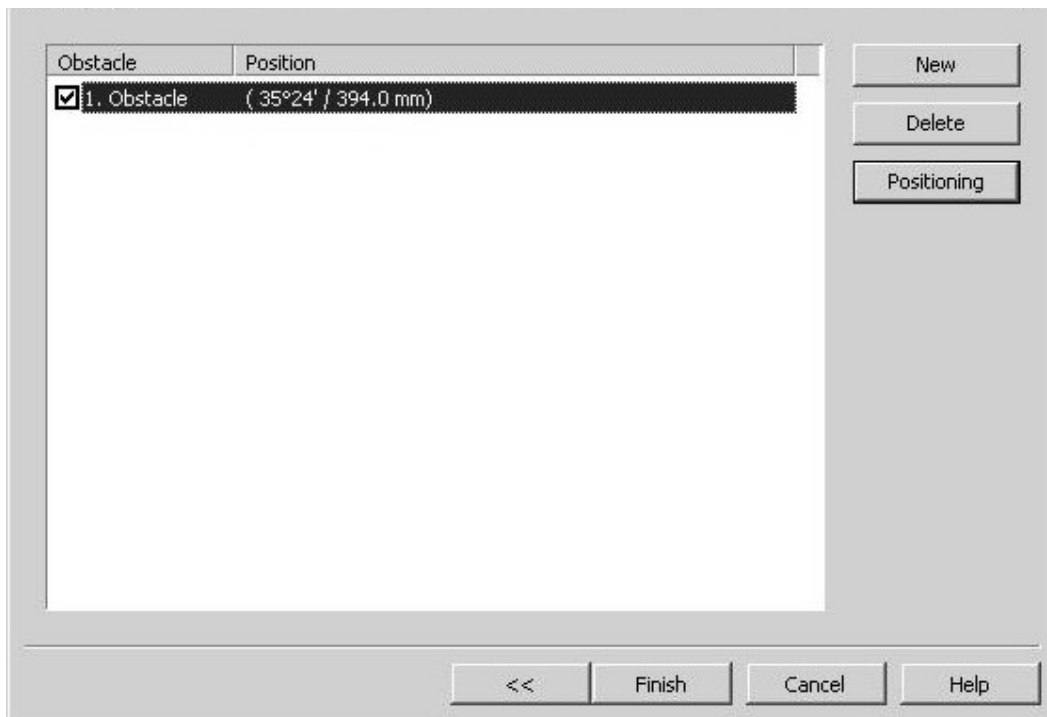

Figure 40
22. Select Finish to complete the installation. See Figure 40.